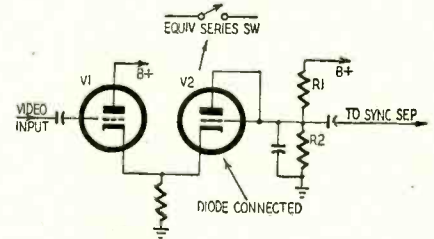

Fig. 4—A conduction type of circuit.
2. *The conduction type.* The path of the sync pulses is cut off (Fig. 4) as by a switch in the presence of noise. The switch is open when noise appears. This circuit, used several years ago by Philco, depends on a very critical state of near cutoff during normal sync. The inertia or flywheel action of the local oscillators (vertical and horizontal) are relied upon to keep the picture in sync when the switch or gate tube is nonconducting, i.e., when the switch of Fig. 4 is open.
These circuits may depend on rather critical adjustment of the bias or voltage determining the clipping action. Usually this takes the form of a voltage divider (R1, R2) from a B-plus supply bus, as in Fig. 4. Here any slight change of resistance values in the chain of resistors makes the circuit ineffective—it will either remain cut off all the time or not be driven to cutoff by noise. If a voltmeter is connected from the chassis to plate (Figs. 4, 5), or chassis